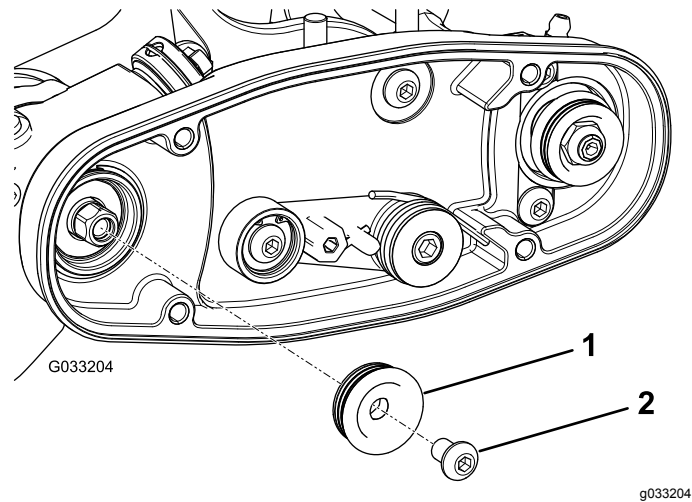

Figure 12
2. Install the drive pulley onto the groomer shaft (Figure 12).
3. Apply 242 Loctite (blue) to the hex-drive bolt and use the bolt to secure the pulley to the driveshaft; refer to Figure 12.